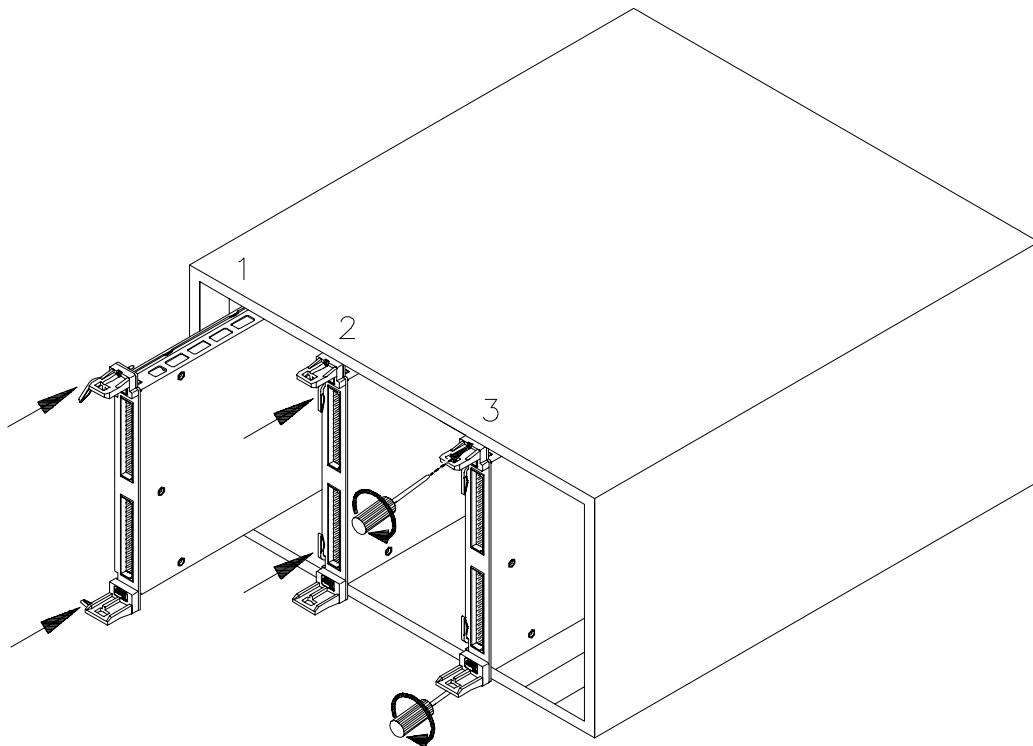

Figure 1-5. Installing the HP E1418A in a VXIbus Mainframe
3. Install the module in a mainframe as shown in Figure 1-5.